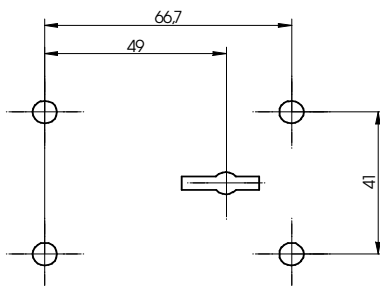

Fig. 3: Fastening hole pattern
- For installation and adjustment of the lock on the door, make sure that the key can be inserted into the lock without having to apply force and without jamming. This can be achieved by mounting the lock according to the following pattern of mounting holes (Fig. 3). For further lock dimensions please refer to the Kaba Mauer Catalogue Sheet.